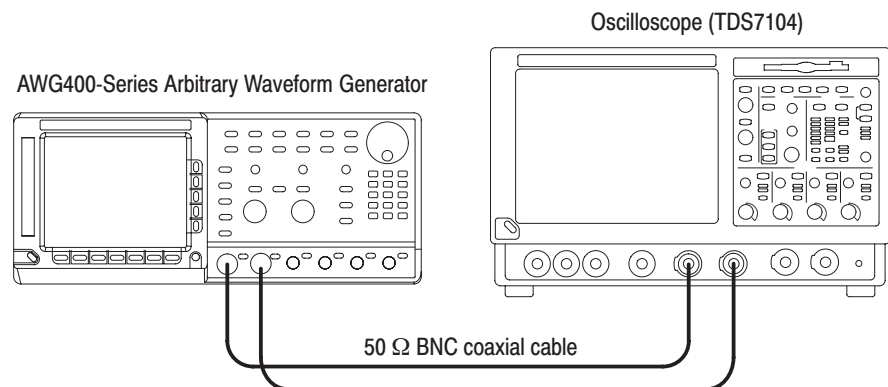

Figure 4-6: Continuous mode initial test hookup (Instrument other than option 05)
- a. Use two 50 Ω coaxial cables to connect the AWG400-Series CH1 output connector to the oscilloscope CH1 input connector, and the AWG400-Series $\overline{CH1}$ output connector to the oscilloscope CH2 input connector (see Figure 4-6).